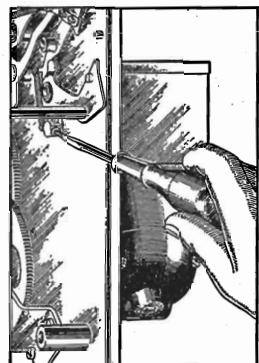

Figure 6—Adjusting tone arm locating screw
- (b) Improper adjustment of tone arm locating screw. This adjustment, shown in Figure 6, can be used to make a substitute adjustment for that described in (a), when the mechanism is out of the cabinet. Make the adjustment so that the needle will lower exactly $\frac{1}{16}$ " from the first groove on a standard 10-inch record. Loosen the lock nut on the adjusting screw by means of a No. 4 Spintite wrench on which the shoulder has been ground sufficiently thin for clearance. *Do not attempt to make this adjustment without first loosening the lock nut.* Tighten the lock nut when the proper adjustment has been made.
(4) FAILURE OF NEEDLE TO LOWER ONTO RECORD SURFACE